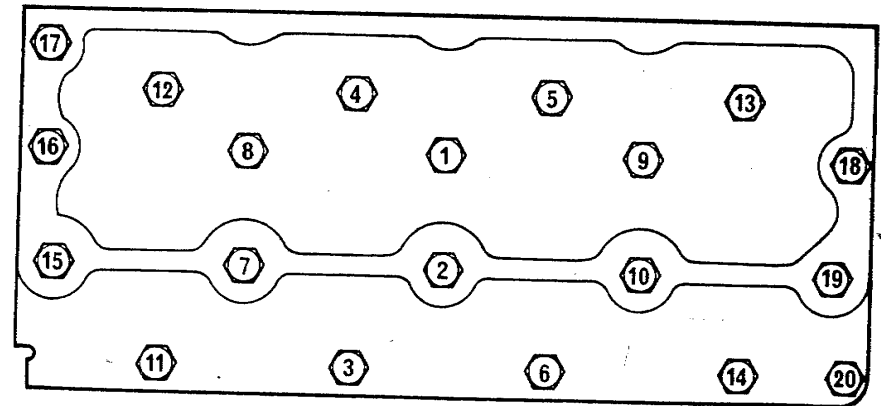

Fig. 3.
2. Tighten the cylinder head setscrews in the correct sequence (see fig. 3) and to the correct torque of 85 lbf ft (11,75 kgf m).